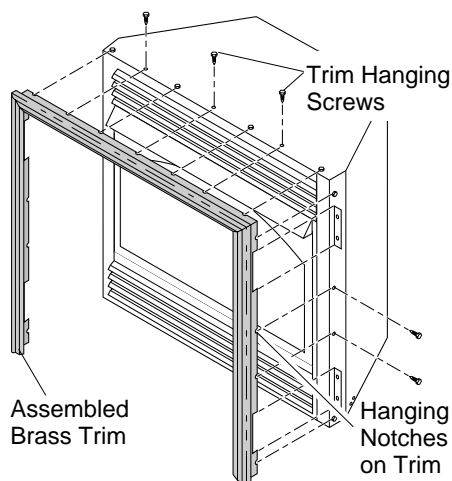

Figure 7 - Attaching Brass Trim to Fireplace
8. Tighten trim hanging screws (#10 x 6.25 shoulder) into holes in cabinets. Place the assembled trim onto fireplace cabinet. Align hanging notches on trim with hanging screws on side of fireplace (see Figure 7). Push trim firmly into place, sliding hanging notches over hanging screws.